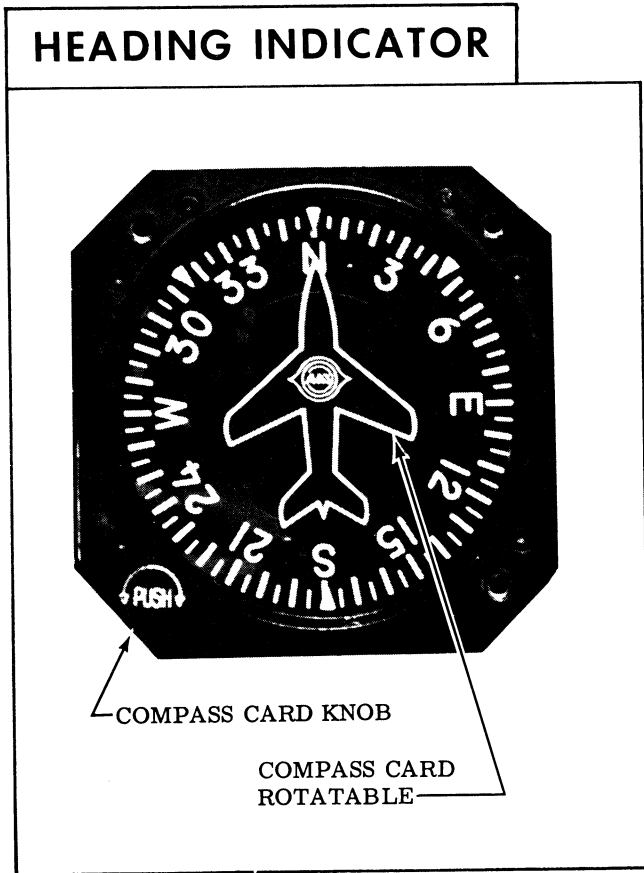

Figure 4-17.
2. Note the direction of IN-11 slaving meter deflection. Cage the heading indicator (Figure 4-17) and turn the caging knob in the direction indicated by the needle until the needle centers.